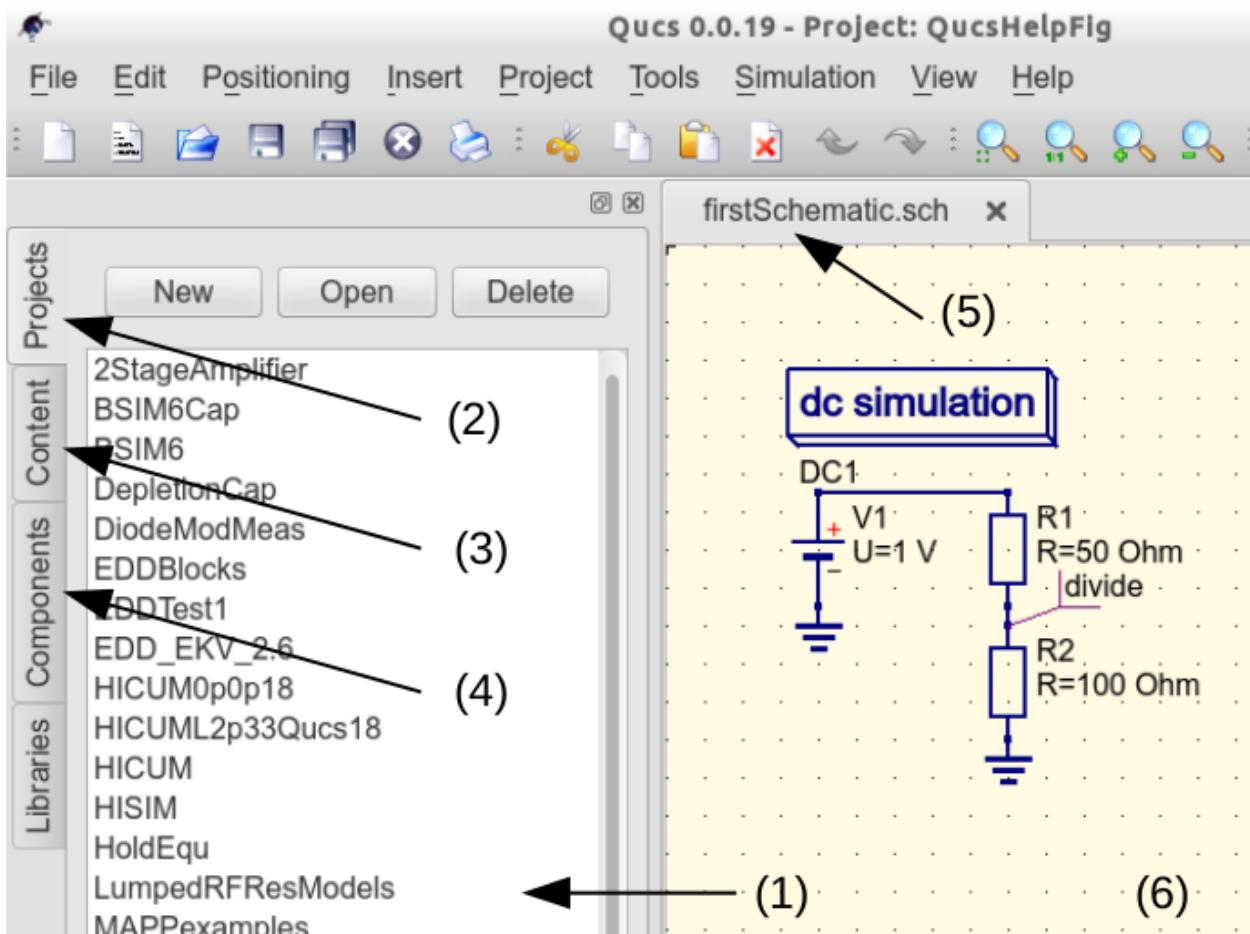
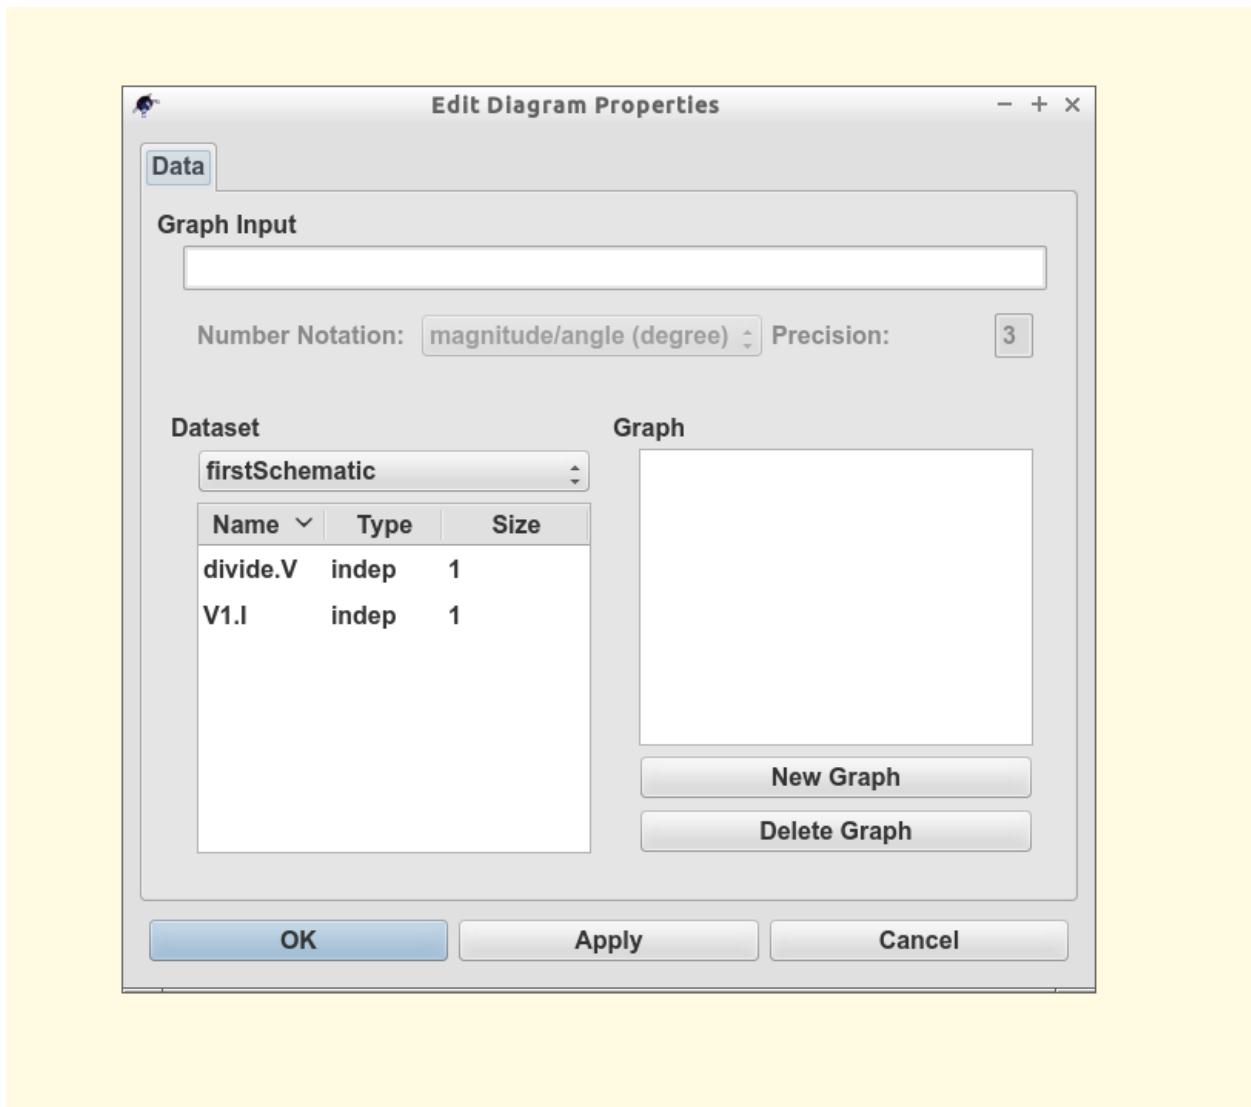

Figure 3 - Qucs main window with working areas labelled
Figure 4 - Qucs data display window showing a **Tabular** dialogue
On launching Qucs a working area labelled (6) appears at the centre of the GUI. This window is used for displaying schematics, numerical and algebraic model and circuit design data, numerical output data, and signal waveforms and numerical data visualised as graphs, see Figure 3. Clicking, with the left hand mouse button on any of the entries in the tabular bar labelled (5) allows users to quickly switch between the currently open documents. On the left hand side of the Qucs main window is a third area labelled (1) whose content depends on the status of **Projects** (2), **Content** (3), **Components** (4) or **Libraries**. After running Qucs, the **Projects** tab is activated. However note, when Qucs is launched for the first time the **Projects** list is empty.
To enter a new project left click on the **New** button located on the right above window (1). This action causes a Qucs GUI dialogue to open. Enter the name of a Qucs project in the box provided, for example enter *QucsHelpFig* and click on the **OK** button. Qucs then creates a project directory in the `~/.qucs` directory. In the example shown in Figure 3 this is called **QucsHelpFig_prj**. Every file belonging to this new project is saved within the **QucsHelpFig_prj** directory. On creation a new project is immediately opened and it's name displayed on the Qucs window title bar. The left tabular bar is then switched to **Content**, and the content of the currently opened project displayed. To save an open document click on the **save** button (or use the main menu: **File** → **Save**). This step initiates a sequence which saves the document displayed in area (6). To complete the save sequence the program will request the name of your new document. Enter *firstSchematic*, or some other suitable name, and click on the **OK** button to complete the save sequence.
As a first example to help you get started with Qucs enter and run the simple DC circuit shown in Figure 3. The circuit illustrated is a two resistor voltage divider network connected to a fixed value DC voltage source. Start by clicking on the **Components** tab. This action causes a combo box to be displayed from which a component group may be chosen and the required components selected. Choose components group **lumped components** and click on the first symbol: **Resistor**. Next move the mouse cursor into area (6). Pressing the right mouse button rotates the **Resistor** symbol. Similarly, pressing the left mouse button places the component onto the schematic at the place the mouse cursor is pointing at. Repeat this process for all components shown in Figure 3. The independent DC voltage source is located in the **sources** group. The ground symbol can be found in the **lumped components** group or selected from the Qucs toolbar. The icon requesting DC simulation is listed in the **simulations** group. To edit the parameters of the second resistor, double-click on it. A dialogue opens which allows the resistor value to be changed; enter *100 Ohm* in the edit field on the right hand side and click enter.
To connect the circuit components shown in Figure 3, click on the wire toolbar button (or use the main menu: **Insert** → **Wire**). Move the cursor onto an open component port (indicated by a small red circle at the end of a blue wire). Clicking on it starts the wire drawing sequence. Now move the drawing cursor to the end point of a wire (normally this is a second red circle attached to a placed component) and click again. Two components are now connected. Repeat the drawing sequence as many times as required to wire up the example circuit. If you want to change the corner direction of a wire, click on the right mouse button before moving to an end point. You can also end a wire without clicking on an open port or on a wire; just double-click the left mouse button.
As a final step before DC simulation label the node, or nodes, who's DC voltage is required, for example the wire connecting resistors **R1** and **R2**. Click on the label toolbar button (or use the menu: **Insert** → **Wire Label**). Now click on the chosen wire. A dialogue opens allowing a node name to be entered. Type *divide* and click the **OK** button. If you have drawn the test schematic correctly the entered schematic should look the same, or be similar to, the one shown in Figure 3.
To start DC simulation click on the **Simulate** toolbar button (or use menu: **Simulation** → **Simulate**). A simulation window opens and a sliding bar reports simulation progress. Normally, all this happens so fast that you only see a short flickering on the PC display (this depends on the speed of your PC). After finishing a simulation successfully Qucs opens a data display window. This replaces the schematic entry window labelled (6) in Figure 3. Next the **Components** → **diagrams** toolbar is opened. This allows the simulation results to be listed. Click on the **Tabular** item and move it to the display working area, placing it by clicking the left hand mouse button. A dialogue opens allowing selection of the named signals you wish to list, see Figure 4. On the left hand side of the **Tabular** dialogue (called Edit Diagram Properties) is listed the node name: **divide.V**. Double-click on it and it will be transferred to the right hand side of the dialogue. Leave the dialogue by clicking the **OK** button. The DC simulation voltage data for node **divide** should now be listed in a box on the data display window, with a value of 0.666667 volts.